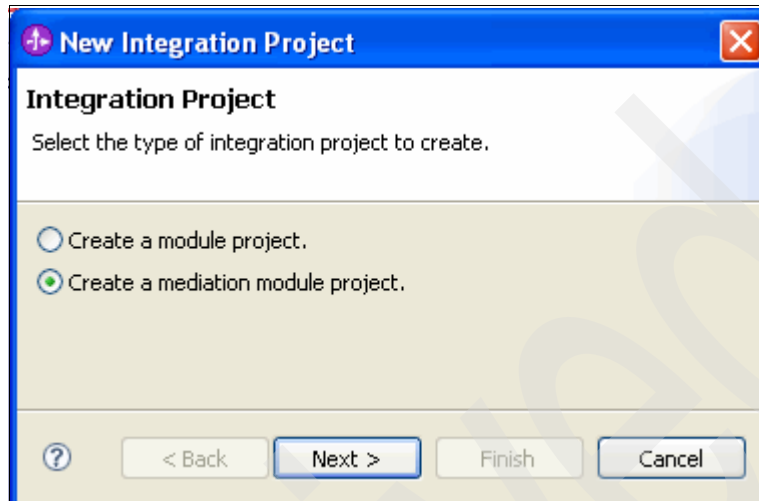

Figure 5-14 Create a new mediation module project
18. In the New Integration Project dialog box, shown in Figure 5-14, choose **Create a mediation module project** and click **Next**.